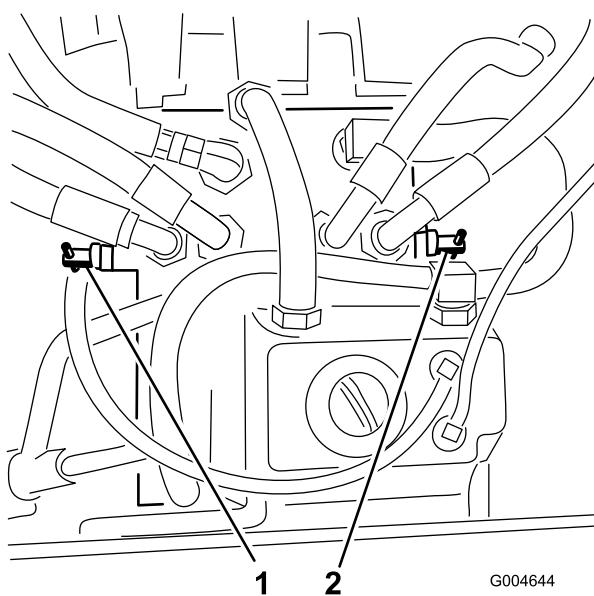

Figure 34
3. Rotate each by-pass valve counterclockwise 1 turn (Figure 34).
Rotate each by-pass valve clockwise 1 turn and hand tighten them (torque of approximately 8 N·m (71 in-lb)) (Figure 34).